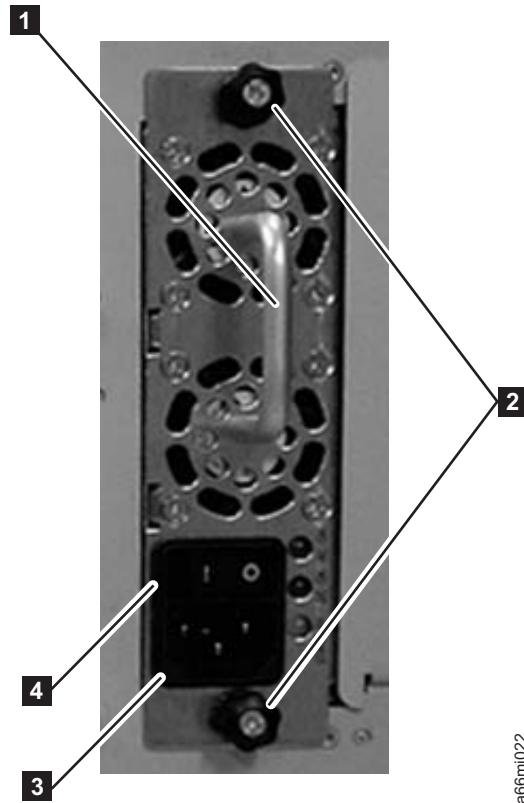

Figure 3-30. Control Module Power Supply
1. Replace the power supply component by sliding it into the power supply slot. First, grasp the handle (**1** in Figure 3-30) while supporting the power supply component from underneath. Then, line up the power supply component with the guides in the power supply slot, and carefully push it into the library.
2. Tighten the two thumb screws (**2** in Figure 3-30) on the power supply component by turning them clockwise.
1. Turn each power supply switch (**4** in Figure 3-30 on page 3-31) to the ON (|) position.